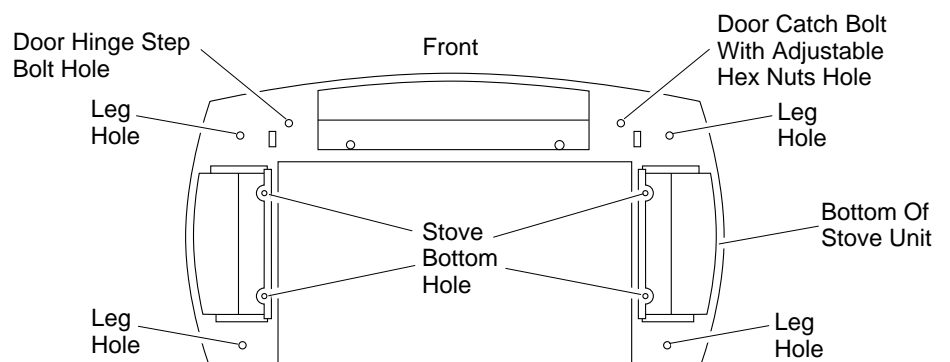
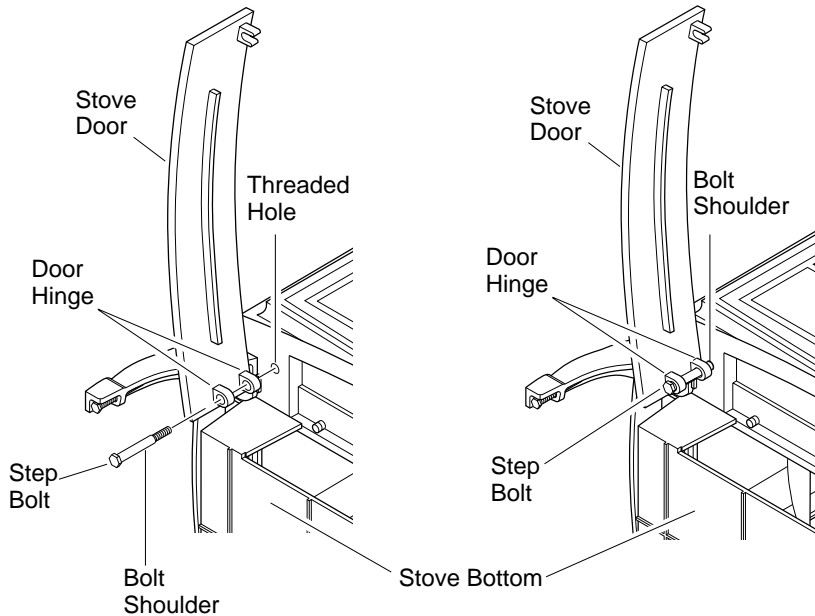
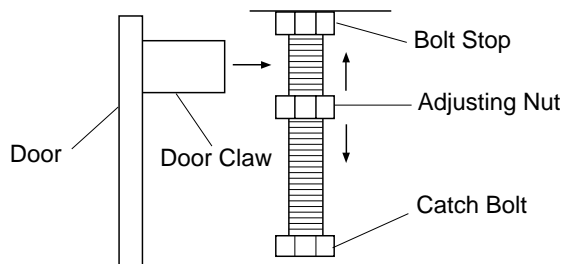

Figure 8 - Locating Threaded Holes for Stove Bottom, Legs, and Door Attachment
Figure 11 - Attaching Stove Door
Figure 12 - Catch Bolt and Door Claw Orientation
8. Fasten each leg to stove with four (4) M8 x 1.25 - 20mm bolts. Use a flat washer and lock washer with each bolt. Tighten bolts into threaded holes on stove body (see Figures 8 and 9). Use an adjustable wrench or a 12mm socket.
9. Fasten stove bottom to stove with four (4) M6 x 1 - 25mm bolts. Use a flat washer and lock washer with each bolt. Tighten bolts into threaded holes on stove body (see Figures 8 and 10). Use an adjustable wrench or a 10mm socket.
10. Attach stove door by inserting step bolt through door hinge pivot hole and into threaded hole in stove body (see Figure 8 on page 8, and Figure 11). Use an adjustable wrench or a 12mm socket to fasten step bolt. Tighten step bolt until snug. Make sure door moves freely.
11. Install door catch bolt (M8 x 1.25-55mm with two M8 hex nuts) into threaded hole on stove body (see Figure 8, page 8). Use an adjustable wrench or a 12mm socket. The catch bolt has two hex nuts attached to it (see Figure 12). The top nut is a bolt stop and the bottom nut is for door leveling adjustment.
16. Fasten back panel to stove with six (6) M6 x 1 - 20mm bolts and washers. Make sure product identification label is located on the outside in lower left-hand corner.